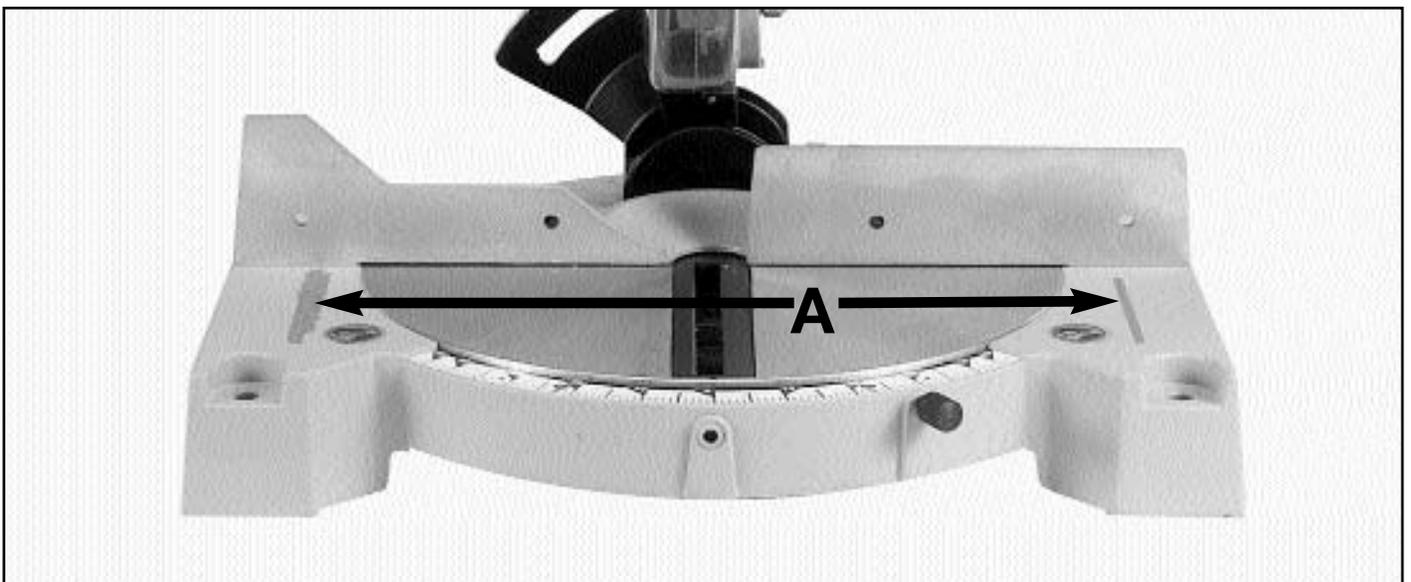

Fig. 43
**⚠ WARNING: THE AREA INSIDE THE TWO RED LINES (A) FIG. 43, ON THE TABLE IS DESIGNATED AS A HAZARD ZONE. NEVER PLACE YOUR HANDS INSIDE THIS AREA WHILE THE TOOL IS BEING OPERATED.**